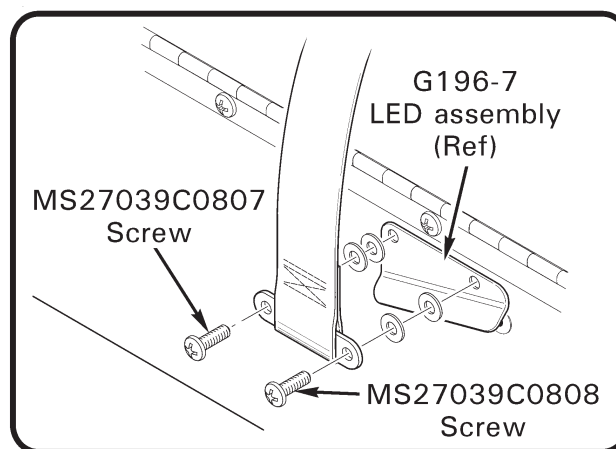

**FIGURE 4**
14. Refer to Figure 4. Perform the following on LH and RH sides of helicopter: Using fifth-point F426-2 anchor mounting holes as pilot holes, position anchor under seat hinge as shown and drill (2) 0.170-inch diameter holes thru F290-1 or F297-1 seat support. Install hardware securing fifth-point to seat support and verify security.
(RH side; same as Figure 4 except as shown)